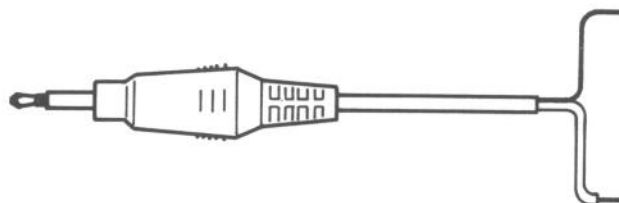

Fig. 6-17
3. Connect the probe of the oscilloscope to the lead wire of the connector as shown in Fig. 6-17.